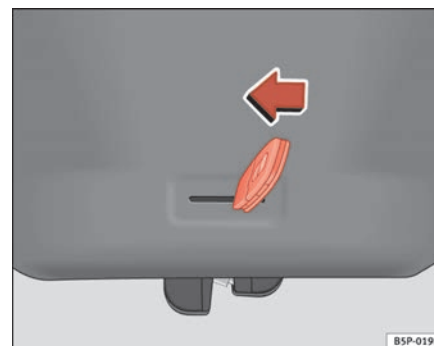

Fig. 66 Tailgate: emergency open
- Insert the key bit in the groove and unlock the locking system, turning the key from right to left, as shown by the arrow ⇒ fig. 66. ■